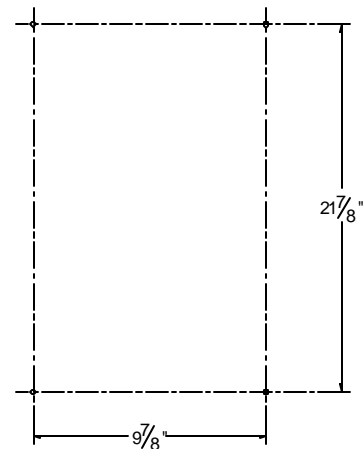

FIG. 2
4. Mark location of the mounting holes on the surface to which unit is to be mounted, (see FIG. 2 for hole pattern). Drill or punch holes that are sized for mounting hardware to be used.